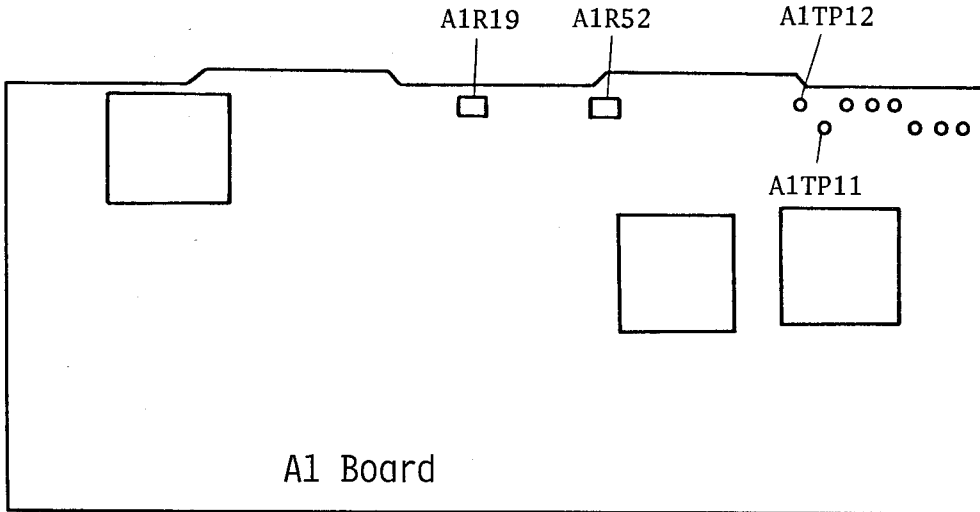

Figure 1-3. Power Supply Adjustment Locations
5. Connect the probe's ground lead to A1TP12. Connect the probe tip to A1TP11. Figure 1-3 shows the access and adjustment locations.